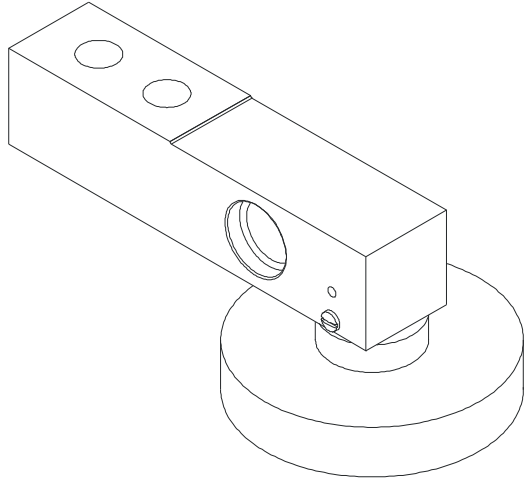

FIG. 15 INSIDE VIEW
- Step 4. Screw the nut onto the lock bolt until it is tight. The feet should look like the following: (See Figs. 15 & 16)